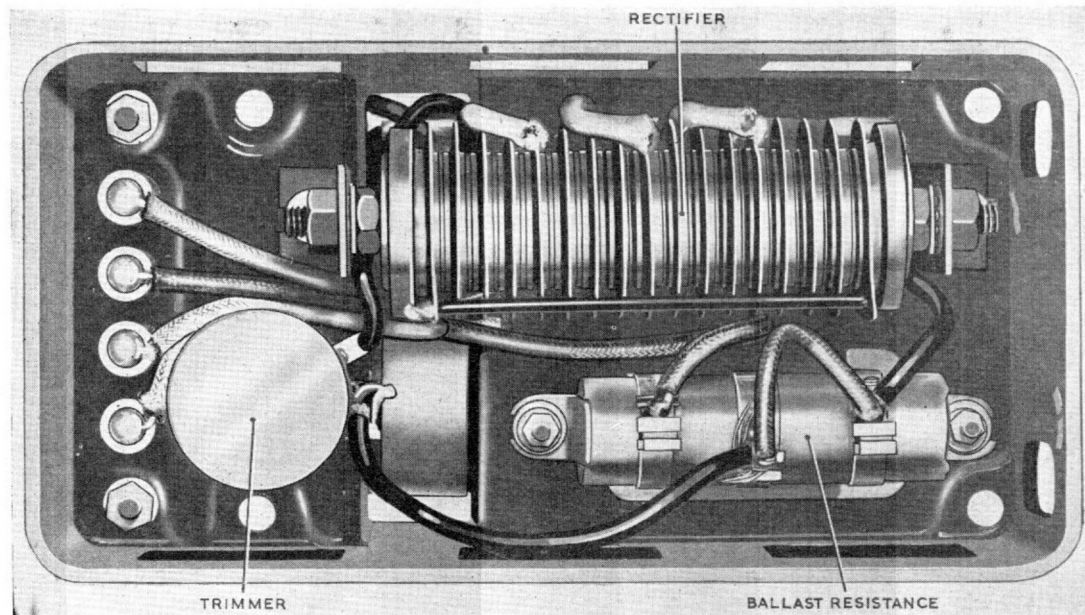

Fig. 3. View of under side of regulator with trimmer
3. The rectifier, which is the selenium type, is housed under the base (*fig. 3*), together with the ballast and trimmer resistors. The ballast resistor is a pre-set resistor, set during manufacture to give the correct coil current; fine voltage adjustment is made by means of the trimmer resistor. Heat from the rectifier and ballast resistor is dissipated through holes in the side of the base.